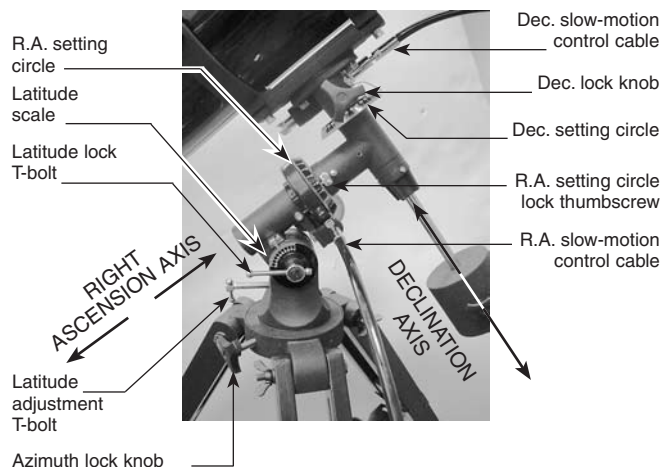

Figure 2. The SpaceProbe 130 ST's equatorial mount.
6. Orient the equatorial mount as it appears in Figure 2, at a latitude of about 40° , i.e., so the pointer next to the latitude scale (located directly above the latitude lock T-bolt) is pointing to the mark at "40." To do this, loosen the latitude lock T-bolt, and turn the latitude adjustment T-bolt until the pointer and the "40" line up. Then retighten the latitude lock T-bolt. The declination (Dec.) and right ascension (R.A.) axes may need re-positioning (rotation) as well. Be sure to loosen the RA and Dec. lock knobs before doing this. Retighten the R.A. and Dec. lock knobs once the equatorial mount is properly oriented.
When you look at the night sky, you no doubt have noticed that the stars appear to move slowly from east to west over time. That apparent motion is caused by the Earth's rotation (from west to east). An equatorial mount (Figure 2) is designed to compensate for that motion, allowing you to easily “track” the movement of astronomical objects, thereby keeping them from drifting out of the telescope's field of view while you're observing.